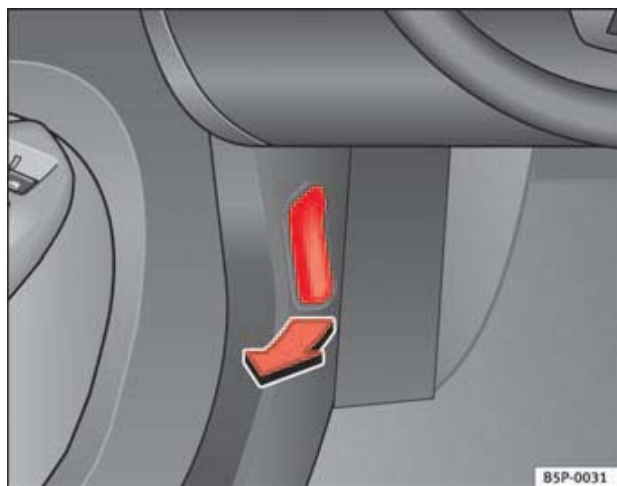

Fig. 141 Detail of the foot well: The release lever for the bonnet is located in the driver side foot well
- To release the bonnet, pull the lever under the dashboard ⇒ **fig. 141** in the direction indicated (arrow). The bonnet will be released by a spring action ⇒ .